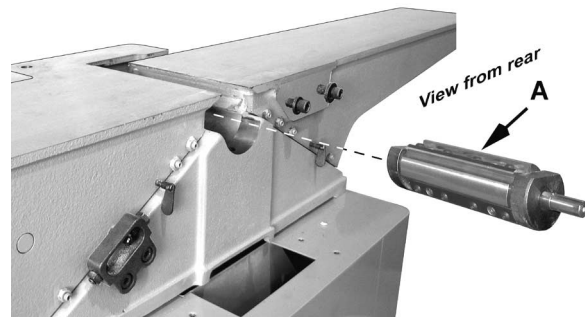

Figure 48
9. Using a 3mm hex wrench, loosen two set screws that secure the cutterhead pulley (D) to the cutterhead shaft. Do not attempt to remove pulley with belt at this time.
11. Carefully remove the cutterhead (A, Fig. 48).